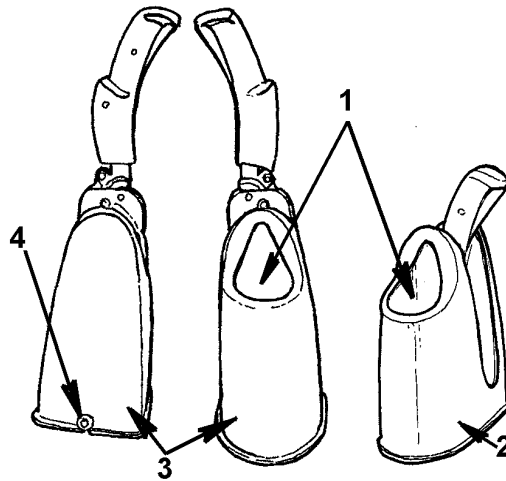
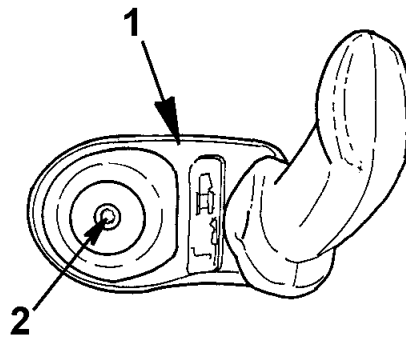

Figure 1: Parking Brake and Cup Holder Shroud
Figure 2: Brake and Shroud, Top View (Tall Brake Assembly Shown)
1. Remove the two parking brake lever shroud mounting screws located at the base and inside the cup holder (Figure 1) and (Figure 2).